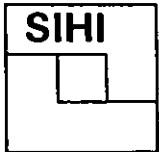

Figure 9.1 - Constant level oiler In closed position
- 9.1.3 To fill a pump when fitted with a constant level oiler, hinge back the container and fill with oil, allow it to spring back into position. The oil will now flow into the bearing frame. Repeat this procedure until no oil flows out of the container. The required oil level will then have been established (Figures 9.1 and 9.2).